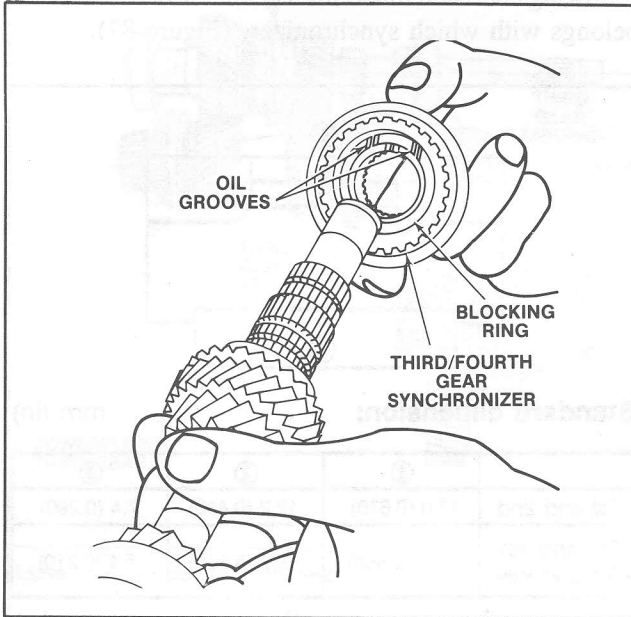

Figure 89 Synchronizer Installation
2. Install the blocking ring and the third/fourth gear synchronizer. (Figure 89).